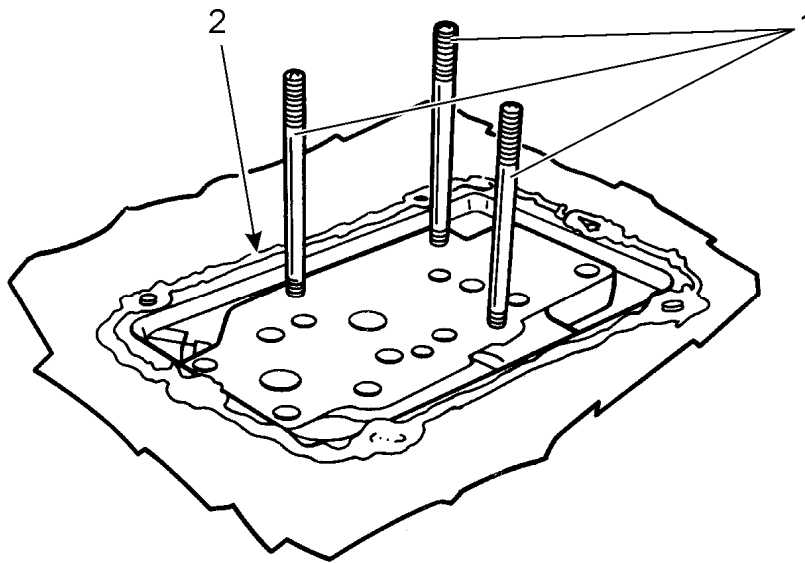

Fig. 7E.17. LOCTITE to Rear Cover
- B. Thoroughly clean the mating surfaces of the main frame cover and steering valve. Apply LOCTITE #504 to rear main frame cover in a continuous bead on centerline of valve mounting holes (refer to Fig. 7E.17).
- C. Lower steering valve (6) onto studs. Secure valve (6) with three nuts and washers on studs and ten bolts (7 and 8).
2. Reconnect pressure supply hose (13) and two pressure check hoses (5).
3. Reconnect two pilot hoses (12) and two short pilot hoses (2) to the steering valve (6) and drain hose (10) to the Hi-Lo valve (11).
4. Reconnect clevis with brake control cable to the brake lever (4).
5. Reconnect wiring harnesses (3) to the two solenoids.